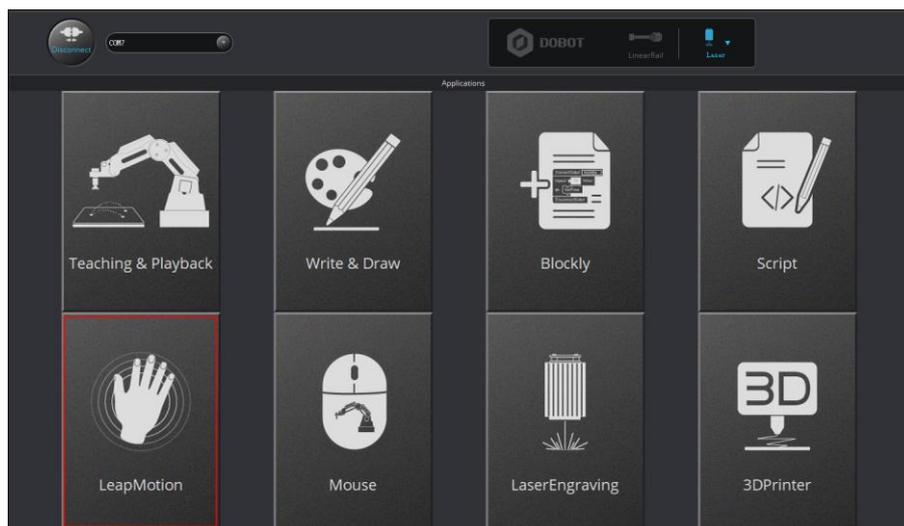

Figure 5.109 Click LeapMotion
- Step 2** Click **LeapMotion**, as shown in Figure 5.109.